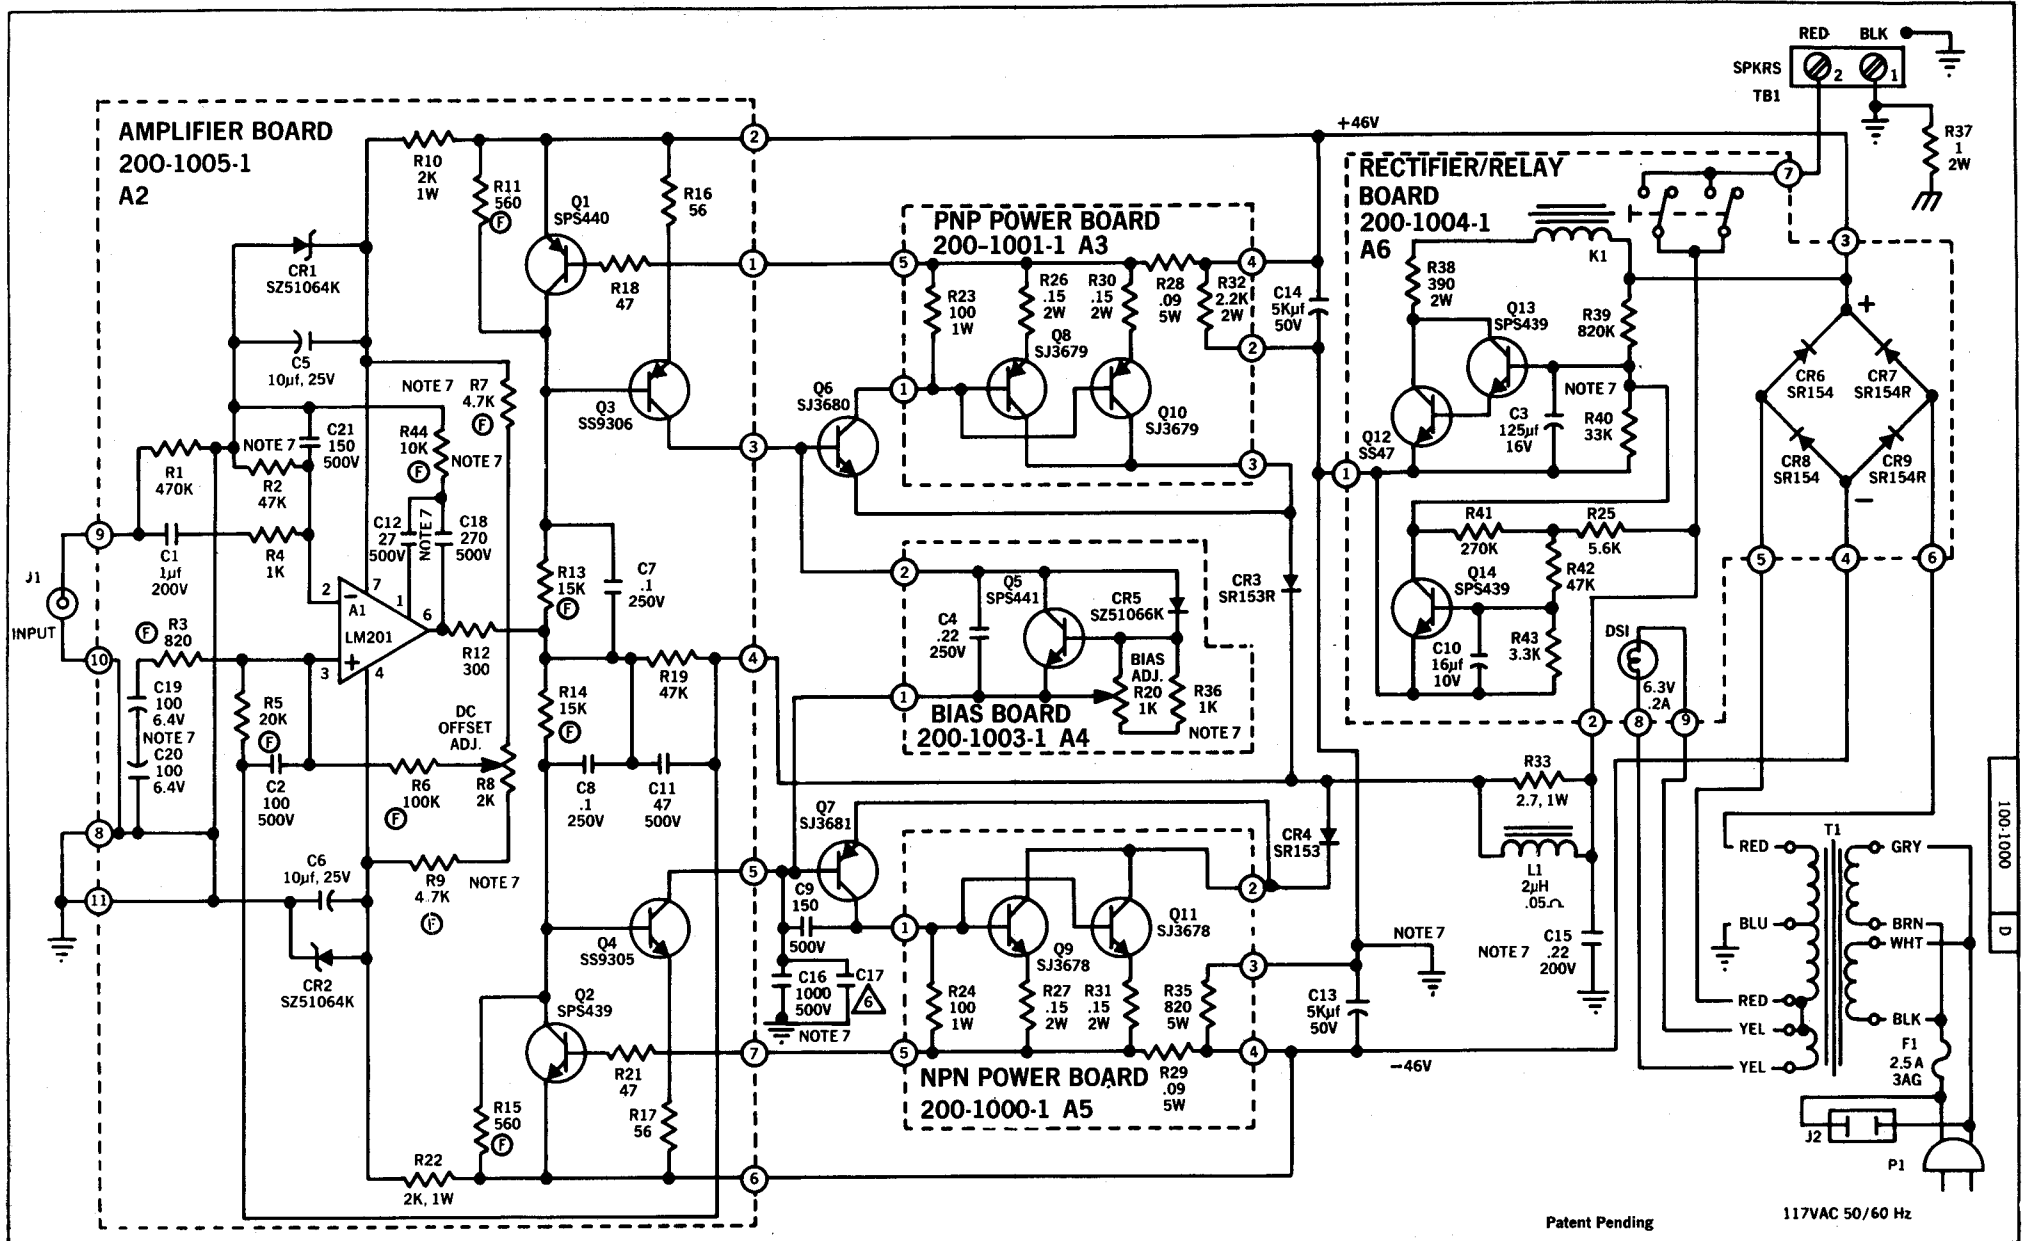

Figure 14. Marantz Model 16 Power Amplifier, Schematic Diagram.
1. Insert change in following places: Figure 2, page 3; Figure 5, page 7; and Figure 14, page 21. Capacitor C8 was 0.1 μ f 250 VDC, is 0.022 μ f 100 VDC per E.C.N. 1097 and Marantz service bulletins 69-12/16-1 and 69-16/16-3.
6. On Figure 14, page 21, add capacitor C23, 300 pF, 500 V across R44, 10K.
E.C.N. no. 1097 (item 1)
8. Resistor R37 is 1.2 ohms. The callouts for this value should be corrected in the following places: Figure 1, page 2; Figure 14, page 21.